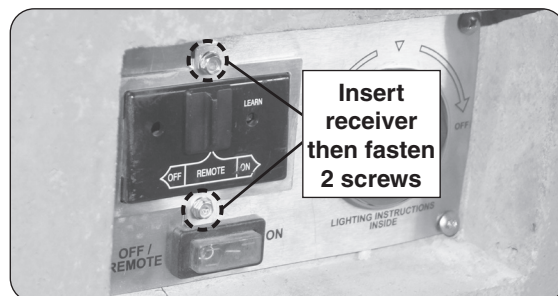

Fig. 34-3 Reinstall remote receiver assembly
3. Reinstall the remote receiver bracket assembly (see Fig. 34-3).